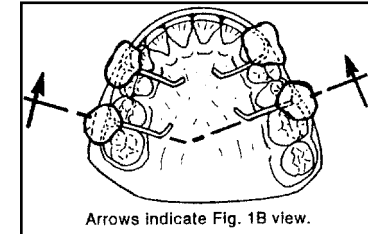

Fig. 1B
3. Position the wires, etc. on the cast. Secure with sticky wax on buccal and facial areas not covered with MRA (Figure 1B).